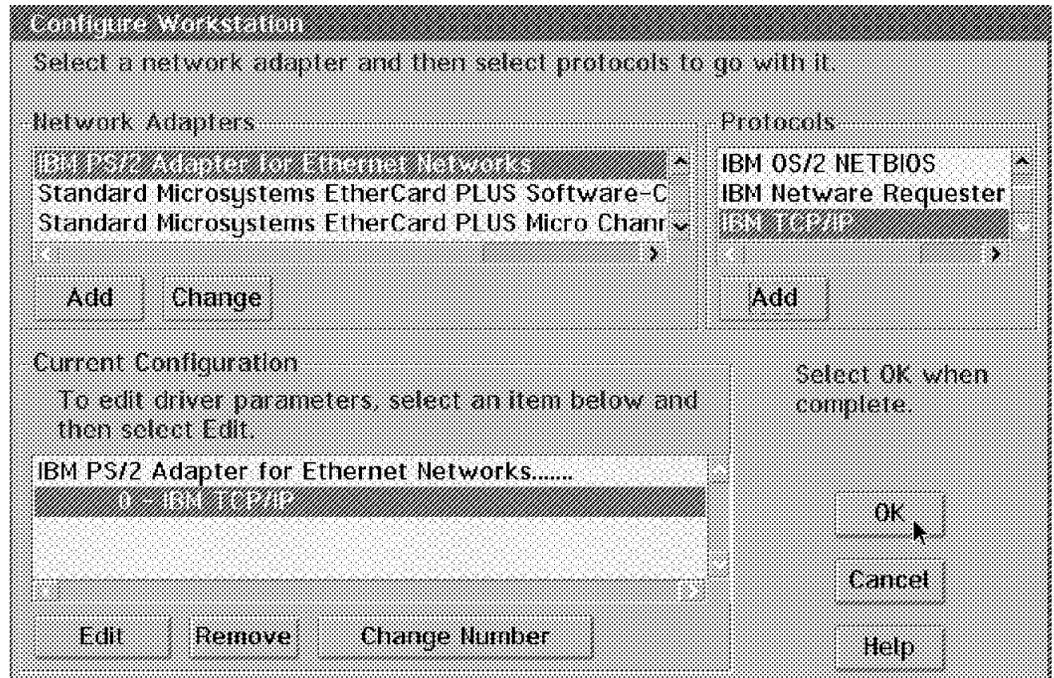

Figure 56. Configuring Your Ethernet LAN Adapter for TCP/IP
Step 5. The panel shown in Figure 56 on page 99 appears.